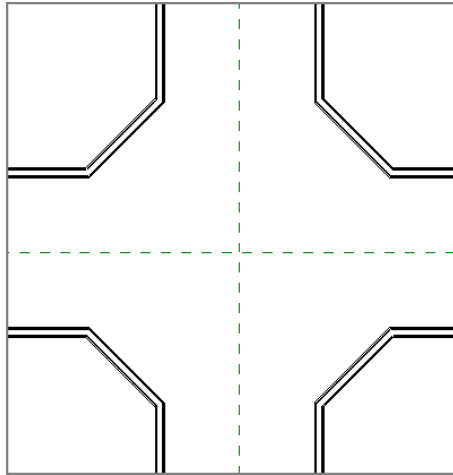

FIGURE 2.47: The open corridor
5. Repeat the process for the other three walls. You should now have an open central area for your corridor, as shown in Figure 2.47.